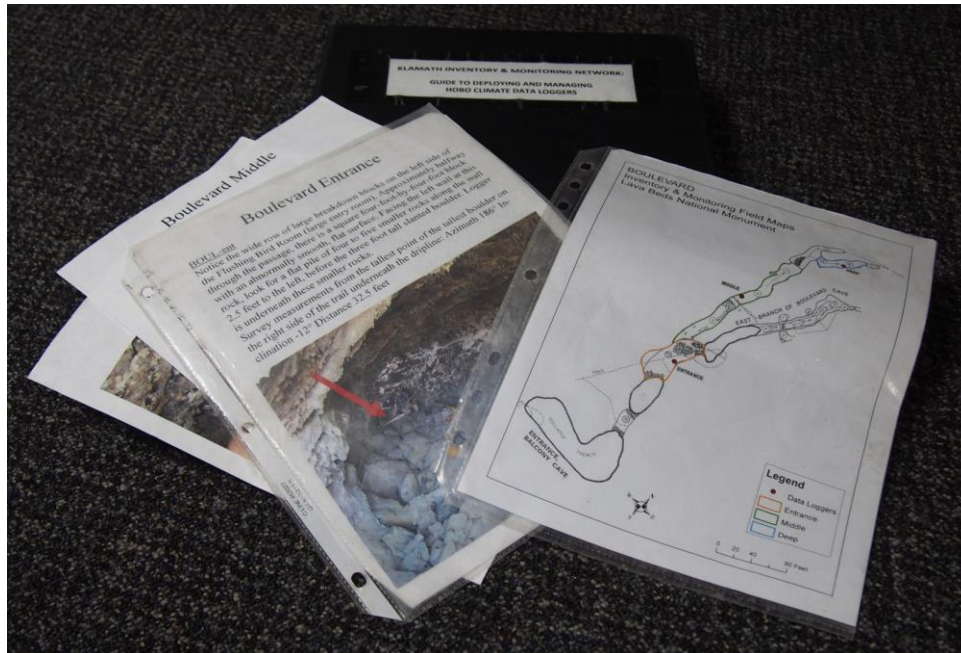

Figure 5-7. Examples of a cave map and written descriptions of data logger locations in the cave.
5. Fill in the “Serial Number Installed” column of the climate data sheet for each datalogger that is launched. Gather maps and location descriptions (Figure 5-7). The binder has all caves/sites.